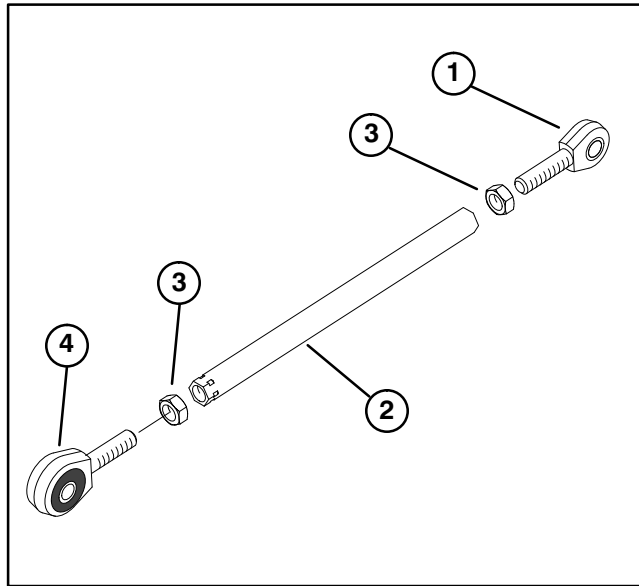

Figure 4
12. Loosely assemble a ball joint to end of speed adjust rod with a jam nut (Fig. 4). Ball joint end is a left hand threads.
13. Loosely assemble a rod end to end of speed adjust rod with a jam nut (Fig. 4). Rod end is a right hand threads.